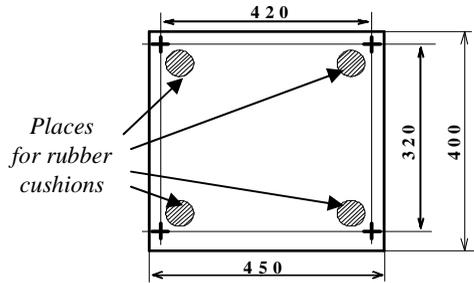

Figure 1
3.1.3 Securely attach the RIP at a suitable place. The overall dimensions and the locations to stick the cushions are shown in Figure 1.